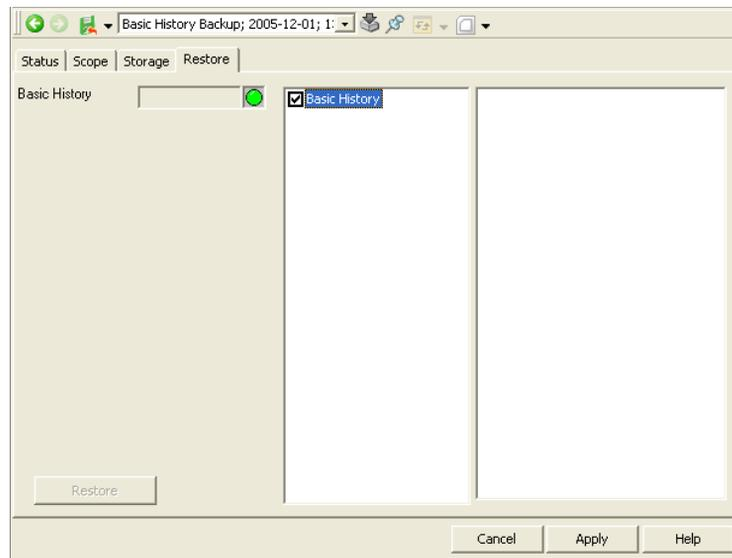

Figure 51. The Restore tab
3. Select the **Restore** tab. See Figure 51 below.
If the Progress status dialog box has warning messages with possible solutions as indicated in Figure 51, read the possible solutions carefully, then click Finish and proceed with the solution that best fits the problem. Refer to the Information Management Release Notes for further guidelines.